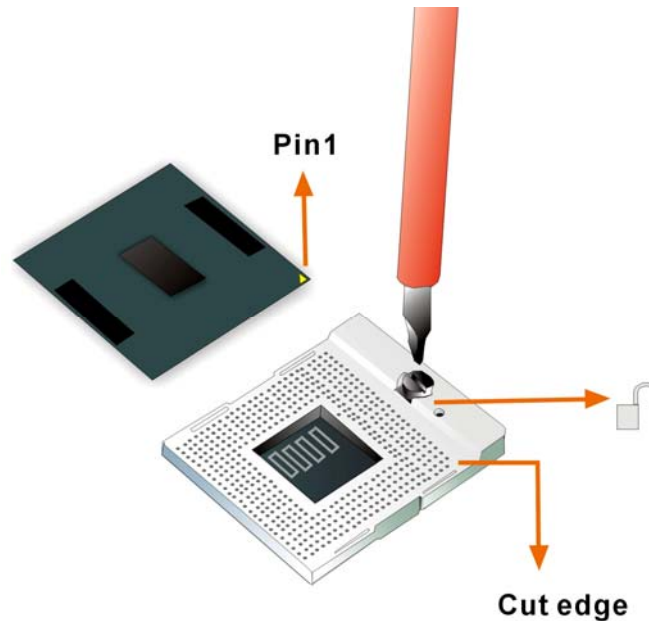

Figure 5-1: Make sure the CPU socket retention screw is unlocked
Step 1: Is the CPU retention screw in an unlocked position? When shipped, the retention screw of the CPU socket should be in the unlocked position. If it is not in the unlocked position, use a screwdriver to position it in an unlocked position. (See **Figure 5-1**)